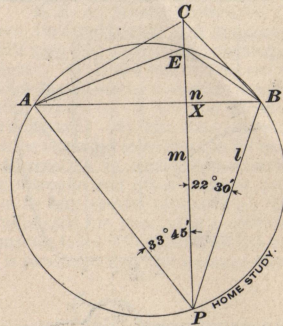

FIG. 2.
Equating these values of QX and transposing, we get formula (2). Apply formula (1) to the triangle ABC , and formula (2) to the triangle ABP in Fig. 2. Then, by addition,